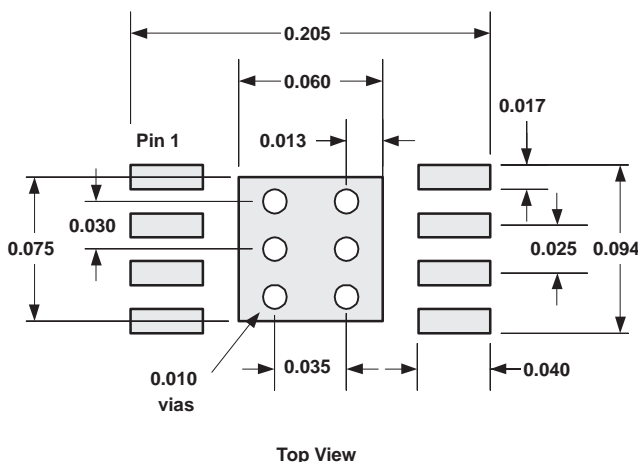

Figure 94. Views of Thermally Enhanced Package
1. Prepare the PCB with a top side etch pattern as shown in Figure 94. There should be etch for the leads as well as etch for the thermal pad.